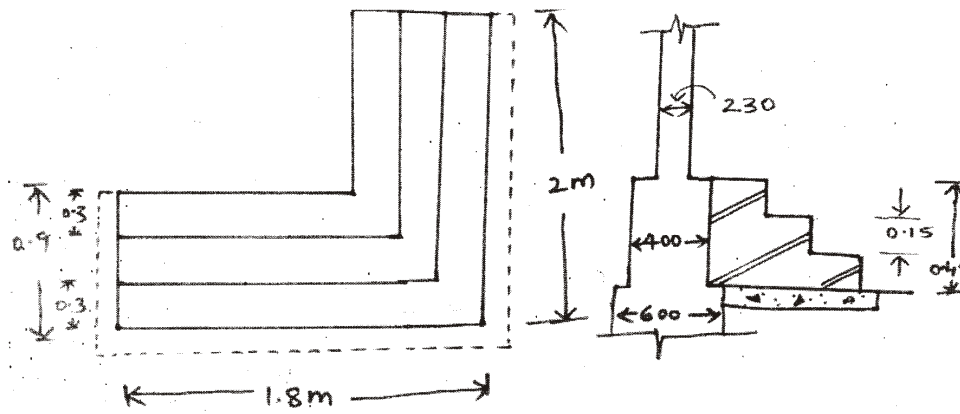

Fig. 1
8. Calculate the brick masonry required for the steps shown in Fig. 1 :